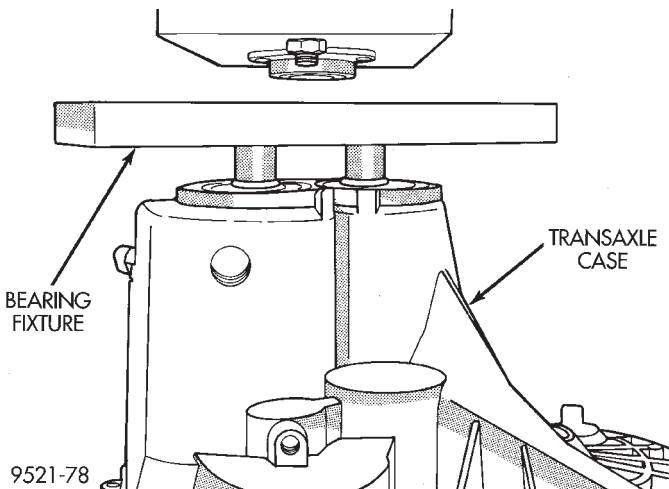

Fig. 54 Bearing Fixture
(14) Install bearing fixture Miller tool #6768 onto transaxle end bearings (Fig. 54). Verify tool is properly aligned to input and output shafts.